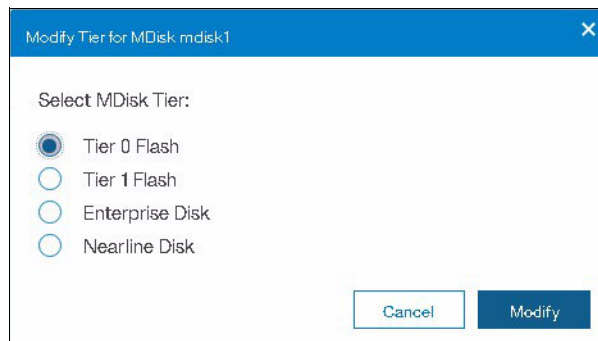

Figure 7-5 Select wanted MDisk tier
- The new window opens with options to change the tier (Figure 7-5).